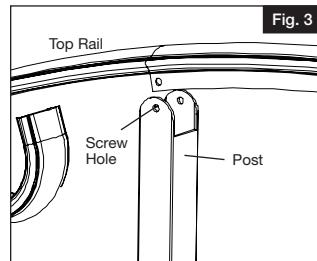

Fig. 3
- Insert the ends of the top rail on top of each post making sure holes in rail align with holes in post (Fig. 3).